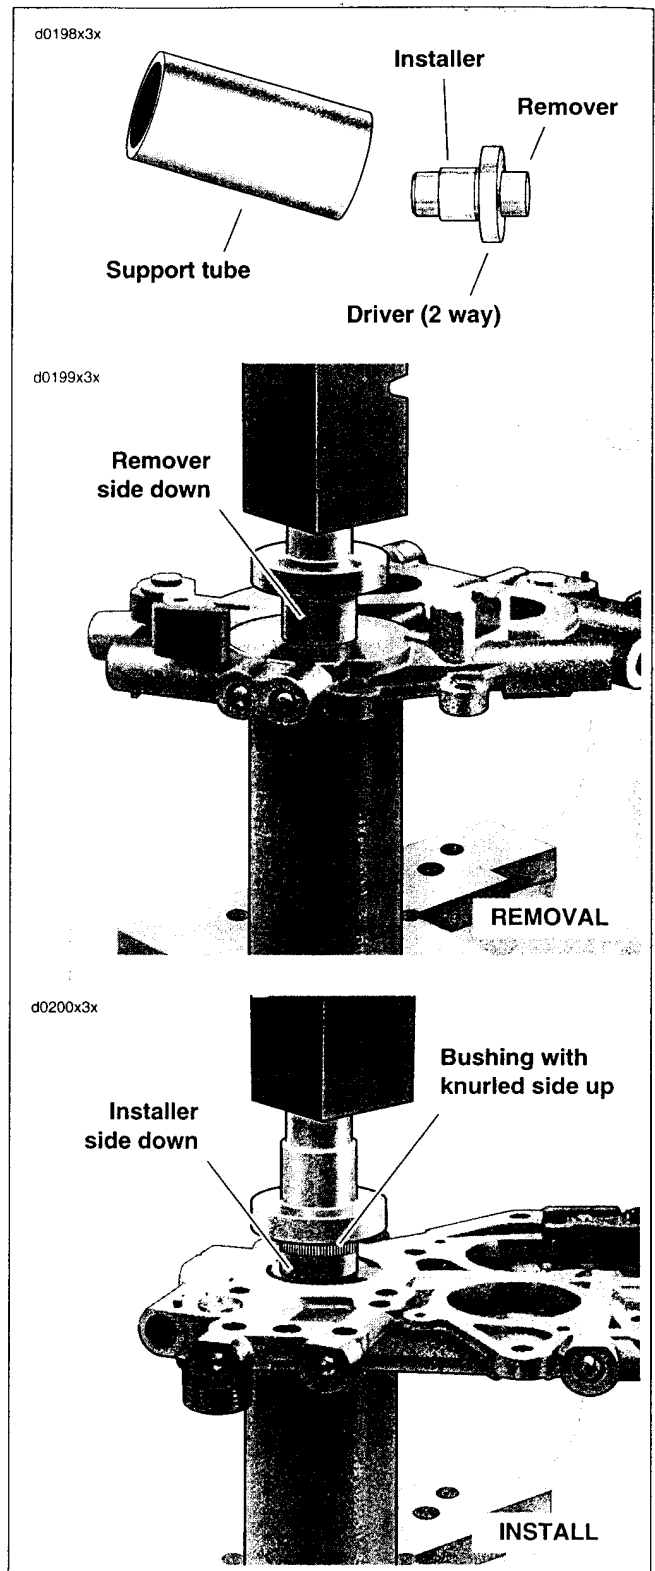

Figure 3-130. Crankshaft Bushing Remover Installer (Part No. HD-42315)
1. See Figure 3-130. Obtain the CRANKSHAFT BUSHING REMOVER/INSTALLER (Part No. HD-42315).